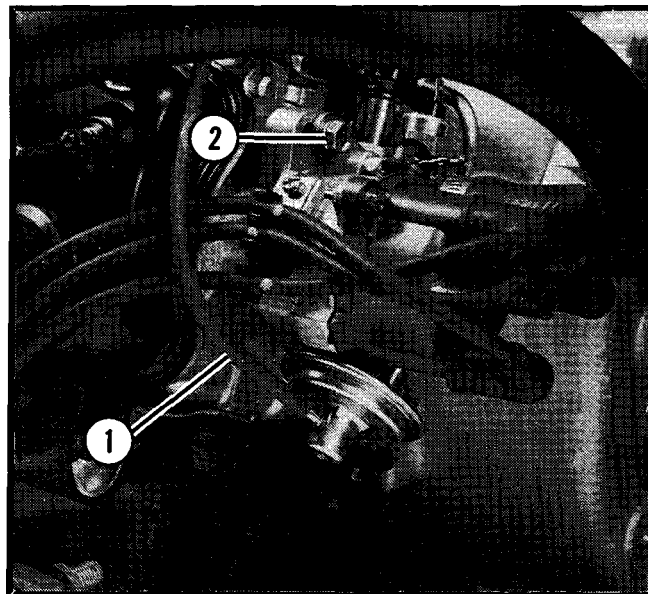

Figure 1.
- Disconnect vacuum advance hose and plug before checking and adjusting timing. See Figure 1.
2. The ignition timing can be adjusted by loosening the retaining screw of the distributor flange and turning the distributor body. Retighten screw after proper timing has been set. See Figure 1.